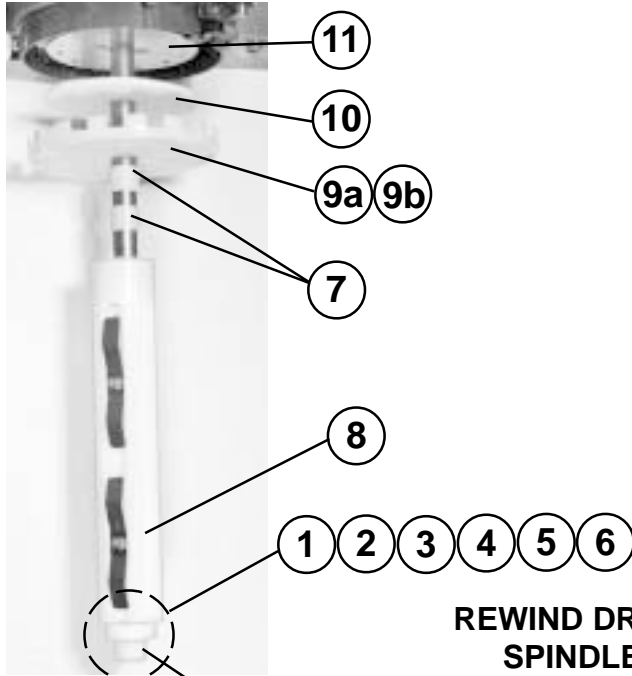
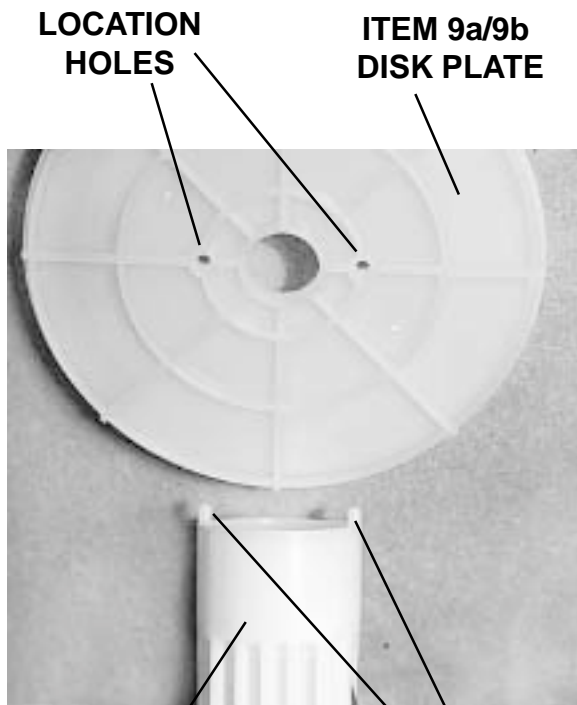
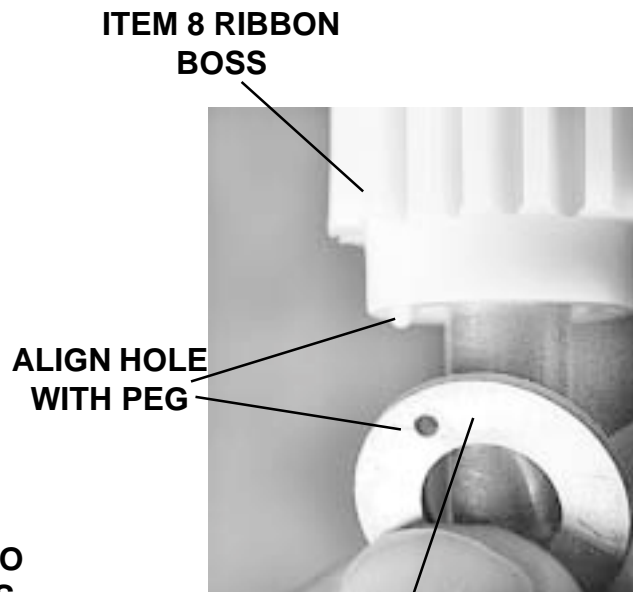

Fig. 6-43 CONTINUED FROM FIG. 6-42
Fig. 6-47
Fig. 6-48
3.	Slide (2) Item 7 Collars onto the Ribbon Shaft and against Item 9a or 9b Wind or Unwind Disc Plates. NOTE: The collars may still be inside the ribbon boss. List 6-A and Fig. 6-43
4.	Slide Item 8 Ribbon Bosses onto the Ribbon Shaft. Align the pegs on Item 8 with the location holes on the Item 9a/9b disc plates. Slide the 3rd Item 7 Collar onto the shaft and into Item 8 Ribbon Boss. List 6-A, Fig. 6-43 and Fig. 6-47
5.	Install Item 6 Oil-less Dry Metal Washer onto the ribbon shaft with the frictionless coated side facing outward away from Item 8. Align the hole on Item 6 Washer with the peg on Item 8 Ribbon Boss. List 6-A, Fig. 6-43 and Fig. 6-48